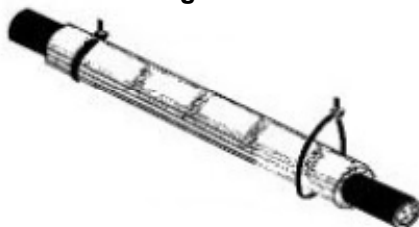

Figure 6
6. Install cable ties at outer most notches of the snap locks. Splice is complete and ready for use. See Figure 6.